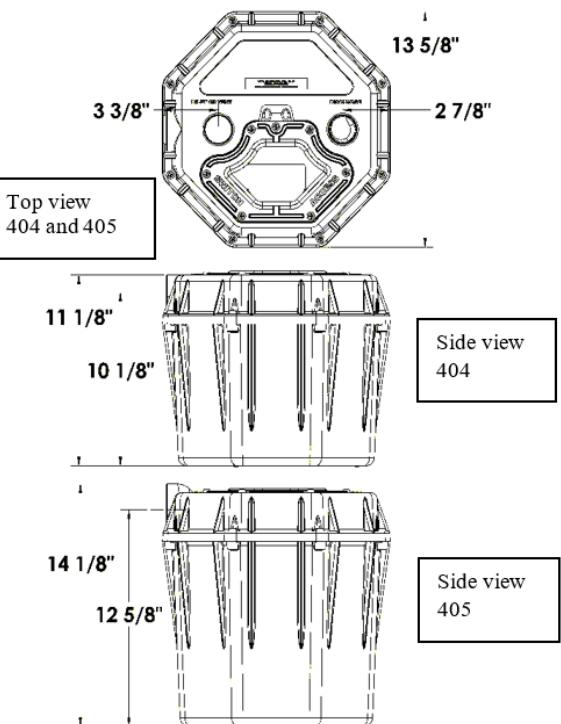

Figure 2: Product dimensions. Dimensions are rounded to the nearest 1/8"
• Total lift height has been reached (see Fig. 2)	• Try routing pipe to a lower level. If not possible, another pumping station may be required at a level of roughly half the total lift.